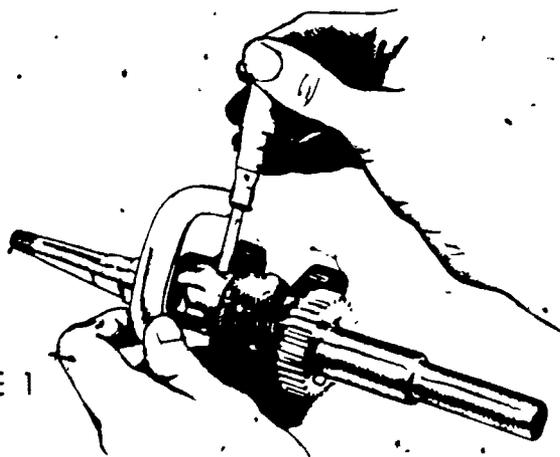

FIGURE 1
- C. Using an outside micrometer check main bearing journals and crankpin journal for out-of-roundness and taper (Figure 1)